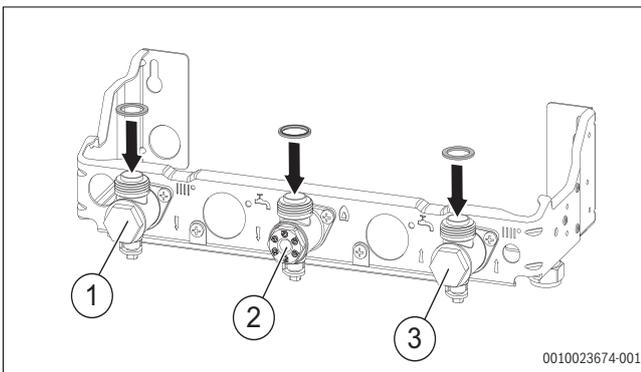

Fig. 45 Fitting the sealing washers
3. Ensure that 3 black plastic ratchet clips are securely fixed and tightened. Ratchet clip number 4 must be fitted but left loose until the boiler is hung and connection to the PRV is made (→ Fig. 45 and Fig.).